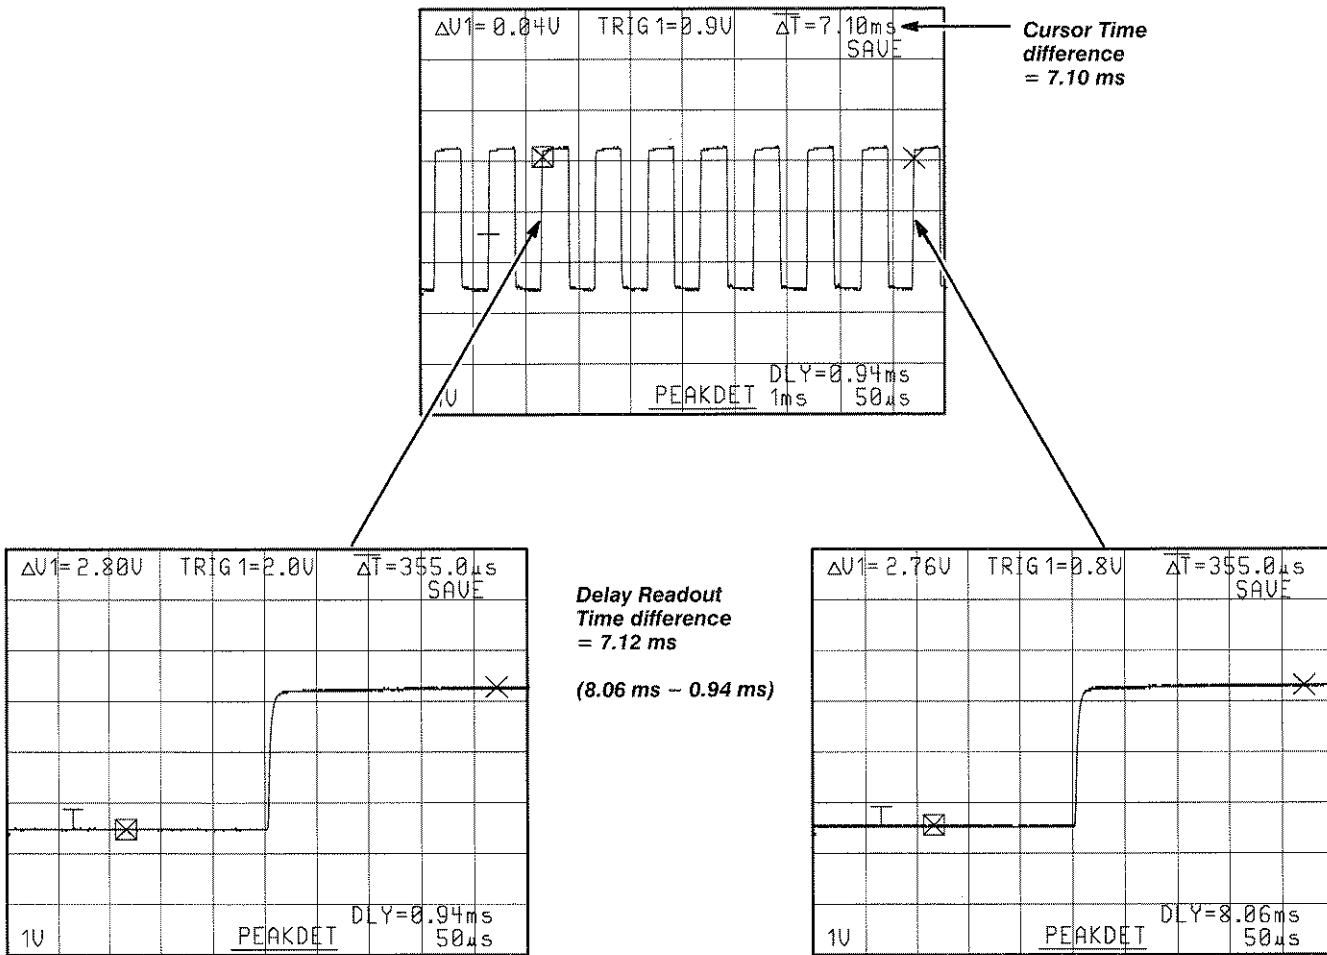

Figure 3-36: Delay Time Readout Difference
- Step 3:** Adjust the **B DELAY TIME POSITION** control to move the intensified zone to the leading edge of the first horizontal point on the **A** trace; then fine-adjust until the rising portion on the **B** trace is aligned with any convenient vertical graticule line (Figure 3-36).